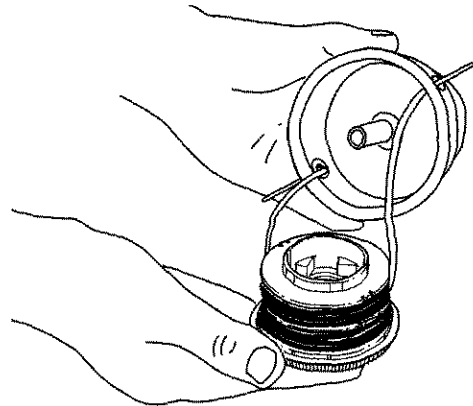

Fig. 25
- Insert the ends of the prewound inner reel line into the outer spool eyelets (Fig. 25). Push the new inner reel, arrow side up, into the outer spool.